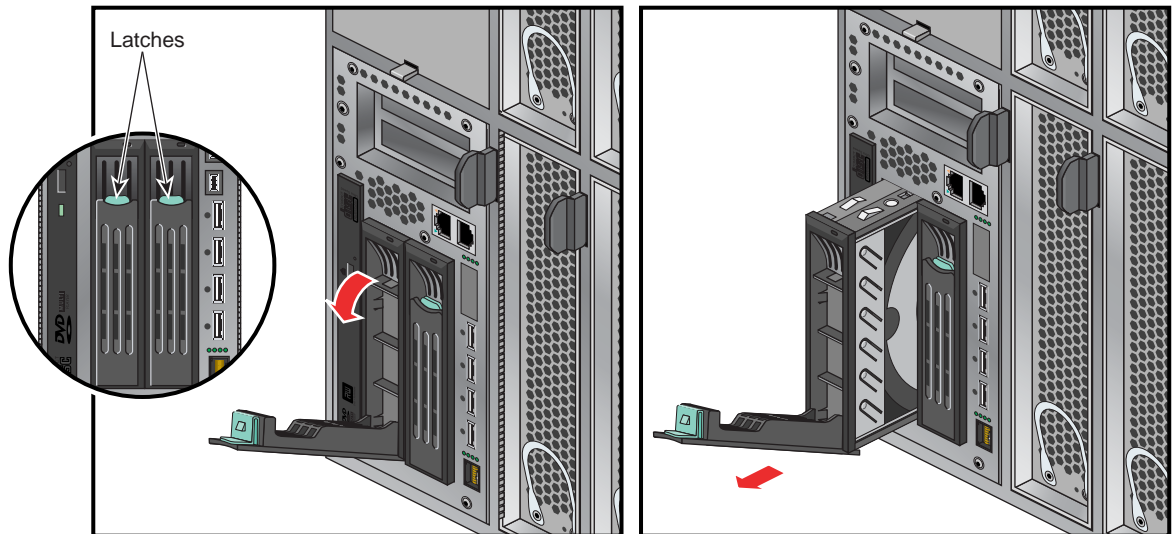

Figure 6-27 Removing a Disk Drive
1. Open the front of the rack and access the two disk drive bays, as shown in panel 1 of Figure 6-27.